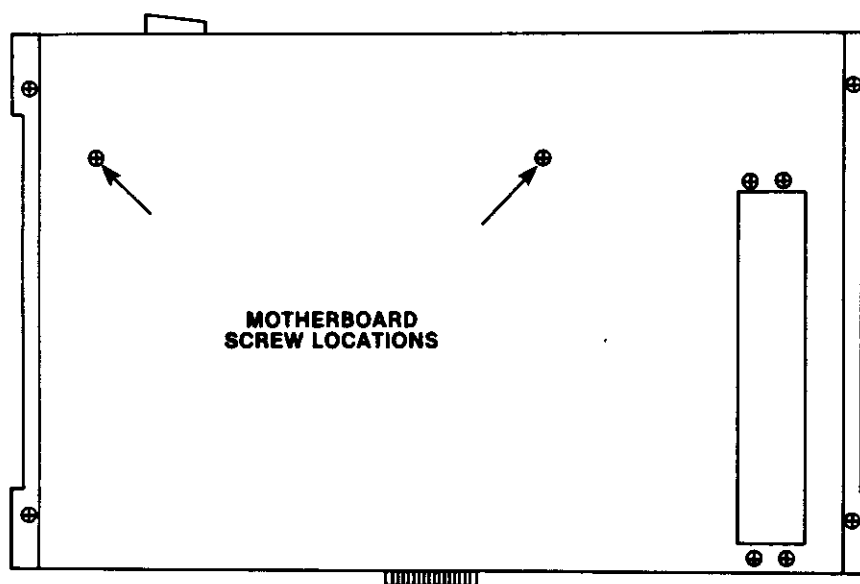

Figure 2-7: Location of Screws - Revision C Chassis
4. Rest the unit on its side. If disassembling a Revision A or Revision B chassis, remove the four screws on the bottom that hold the motherboard to the chassis (see Figure 2-5 or 2-6). If working with a Revision C chassis, remove the two screws on the bottom and the two screws on the rear panel which secure the motherboard (see Figure 2-3 and Figure 2-7). Support the board with your hand (do NOT push hard against it) when you remove the last screw, to keep it from falling.